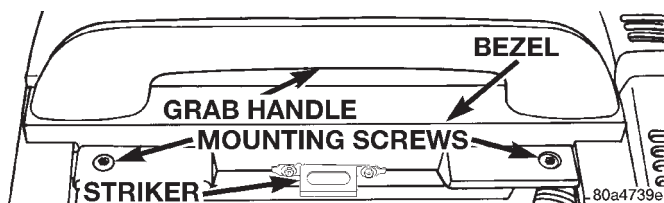

Fig. 20 Instrument Panel Grab Handle Bezel Remove/Install
- (1) Disconnect and isolate the battery negative cable.
- (2) Remove the grab handle from the instrument panel. Refer to **Instrument Panel Grab Handle** in the Removal and Installation section of this group for the procedures.
- (3) Remove the glove box latch striker from the instrument panel. Refer to **Glove Box Latch Striker** in the Removal and Installation section of this group for the procedures.
- (4) Remove the two screws that secure the grab handle bezel to the instrument panel (Fig. 20).